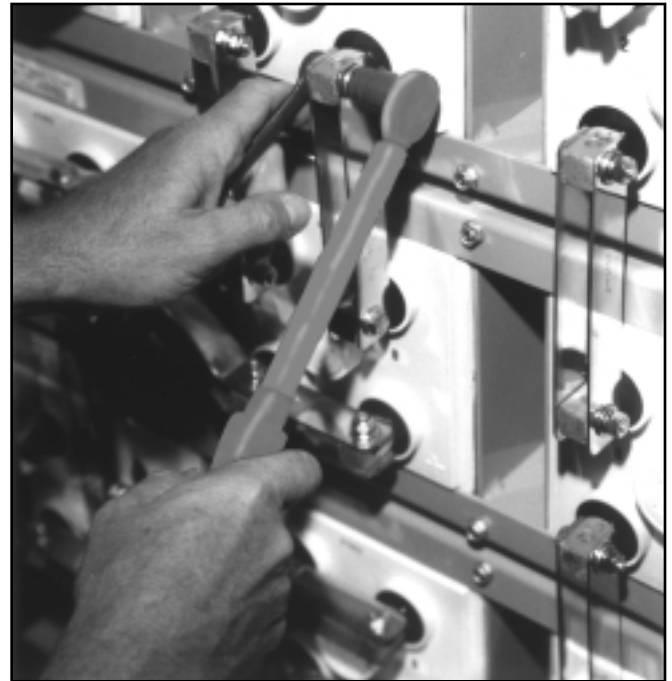

Fig. 8
3. The standard battery is supplied with connector package "S1" requiring 2 connectors per post. Place one connector on each side of the post. Install the connectors loosely to allow for final alignment, then torque to 125 ± 5 inch pounds ($14.1 \pm .5$ Nm). **The installation and direction of the post bolts is important!** (Refer to Fig. 8 and Fig 10, pg. 7 and Fig 11, pg. 8 for proper direction when inserting into posts.)